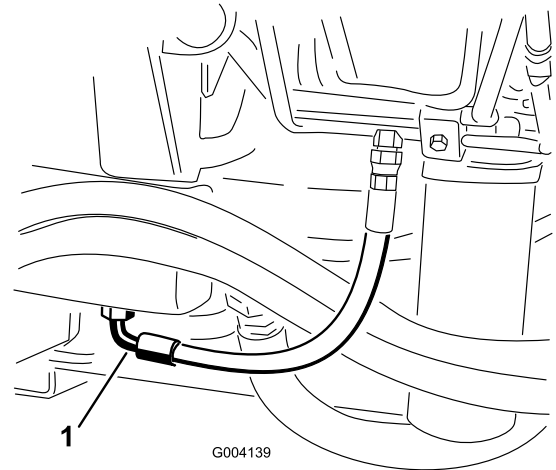

Figure 62
2. Place a large drain pan under the fitting secured to the bottom of the hydraulic fluid reservoir (Figure 62).